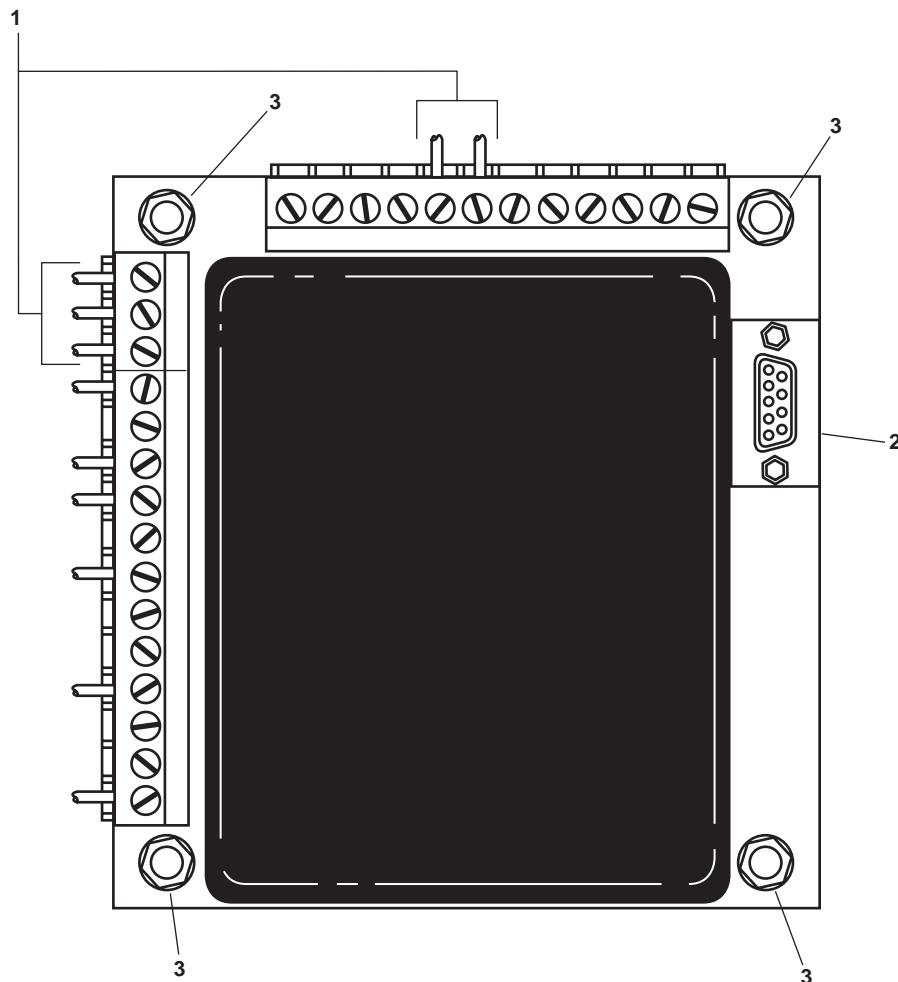

Figure 14. Programmable Controller
4. Label and disconnect the wiring (figure 14, item 1) from the programmable controller (figure 14, item 2).
5. Remove the four locknuts (figure 14, item 3) and remove the programmable controller (figure 14, item 2) from the enclosure. Discard the locknuts.
1. Install the programmable controller (figure 14, item 2) in the enclosure and secure it in place with four new locknuts (figure 14, item 3).
2. Install the wiring (figure 14, item 1) using the labels from step 2 of Removal as a guide. Remove the labels.